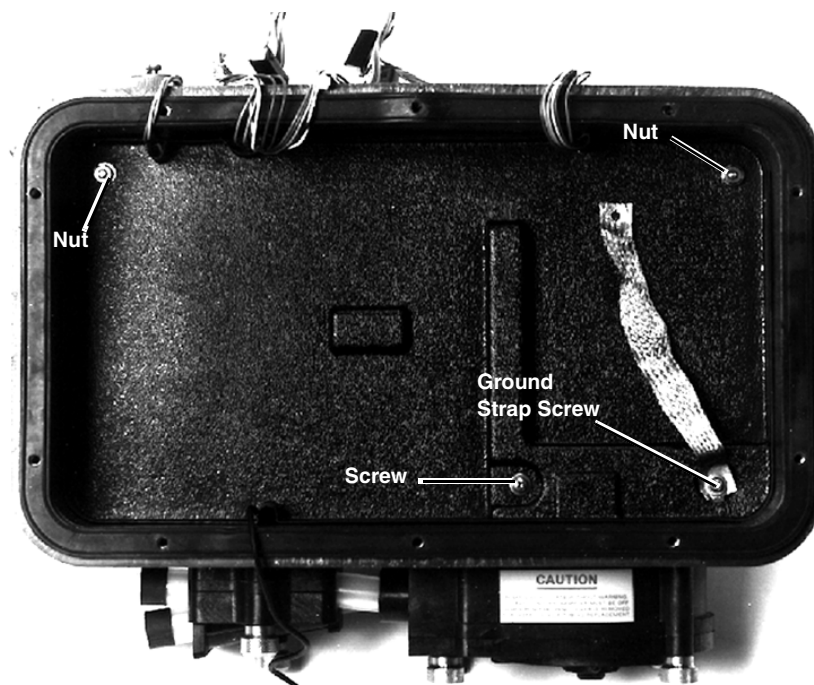

Figure 6-4 Control Box Tray Removal
2. Remove the 2 nuts and the screw shown in Figure 6-4. Remove the ground strap by removing the remaining screw.